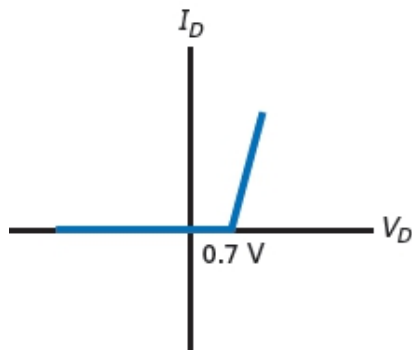

Figure-24 Diode curve for third approximation
- In the third approximation of a diode, we include the bulk resistance R_B . Figure-24 shows the effect that R_B has on the diode curve.